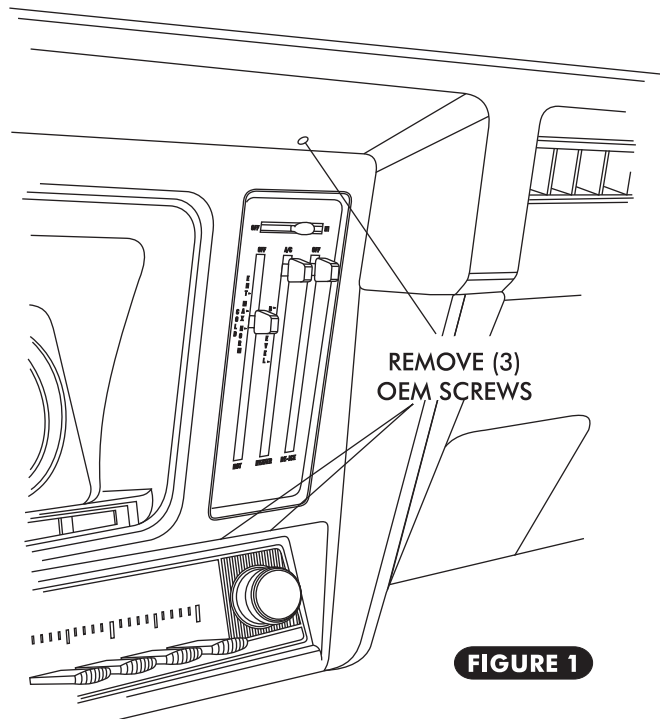

FIGURE 1
- ☐ REMOVE THE (3) OEM MOUNTING SCREWS FROM INSTRUMENT PANEL OF DASH. SEE FIGURE 1 BELOW.